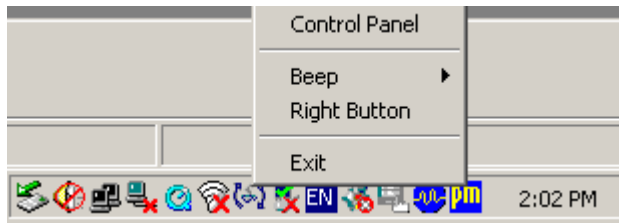

Figure 5-8: PenMount Monitor Popup Menu
Step 4: Click the icon. A pop up menu appears. See **Figure 5-8**.
Step 5: Click Control Panel in the pop up menu shown in **Figure 5-8**.